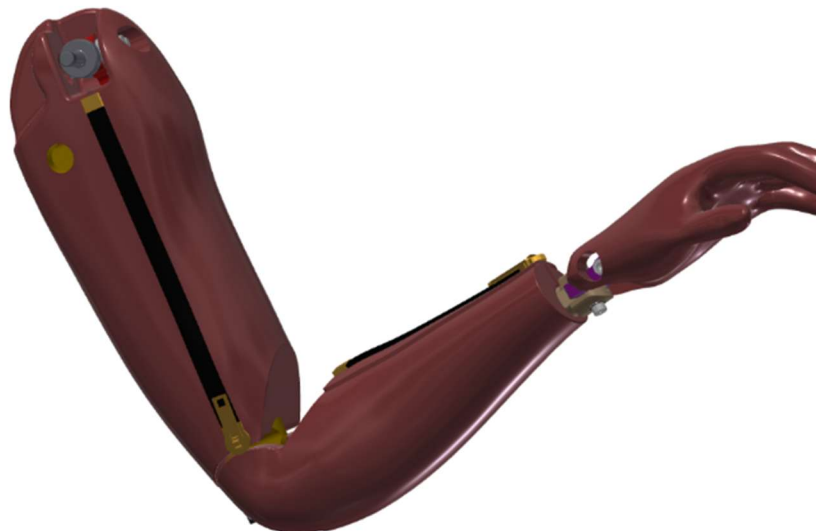

Figure 11-42. Zip the Upper Arm Flesh (484-6120-1,2)
- 11.3.18 Zip the Upper Arm Flesh (484-6120-1,2) (Figure 11-42).